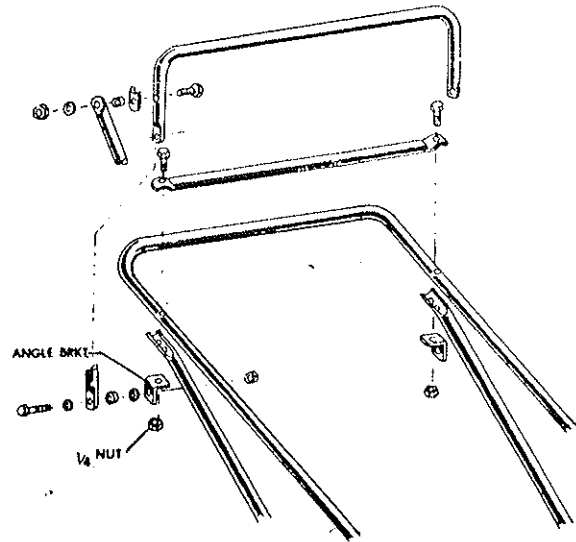

Fig. 1
2. Next refer to figures 1 and 2 to get familiar with the arrangement of the handle parts. Figure 1 is an exploded view to show how the pieces are assembled. With the exception of the trusses, you will receive these parts completely assembled. To assemble the trusses, remove the 1/4" hex nut in Figure 1 from the handle and place the hole nearest the end of the truss over the bolt. The truss is installed next to the handle as shown. Next place the angle bracket over the bolt and replace the nut on both sides.